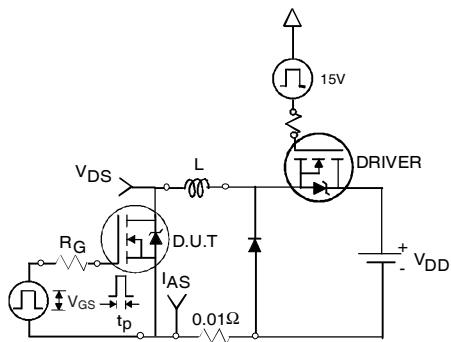

Fig 12a. Unclamped Inductive Test Circuit
- ④ Pulse width $\leq 400\mu\text{s}$; duty cycle $\leq 2\%$.
- ⑤ $C_{\text{oss eff.}}$ is a fixed capacitance that gives the same charging time as C_{oss} while V_{DS} is rising from 0 to 80% V_{DSS} .
- ⑥ Calculated continuous current based on maximum allowable junction temperature. Package limitation current is 75A.
- ⑦ Limited by $T_{J\text{max}}$, see Fig.12a, 12b, 15, 16 for typical repetitive avalanche performance.
- ⑧ This value determined from sample failure population. 100% tested to this value in production.
3. Equation below based on circuit and waveforms shown in Figures 12a, 12b.